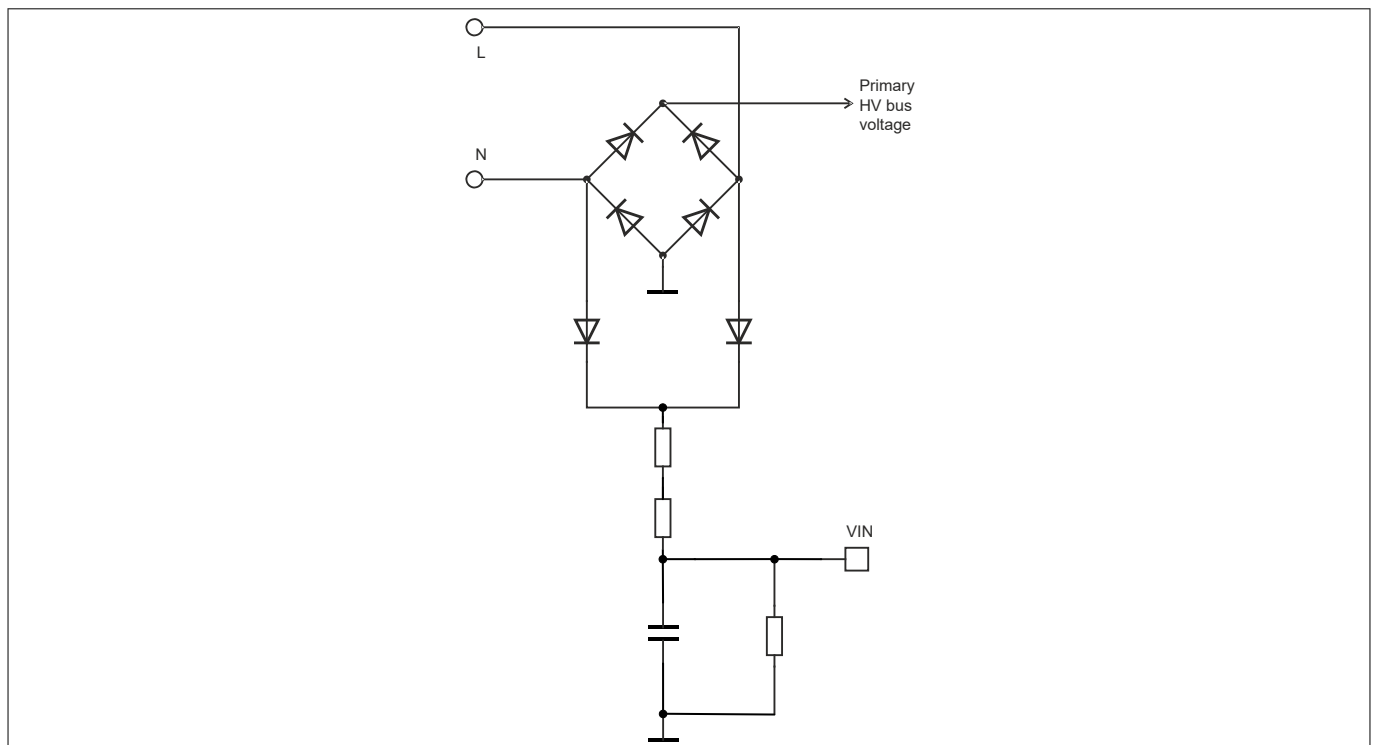
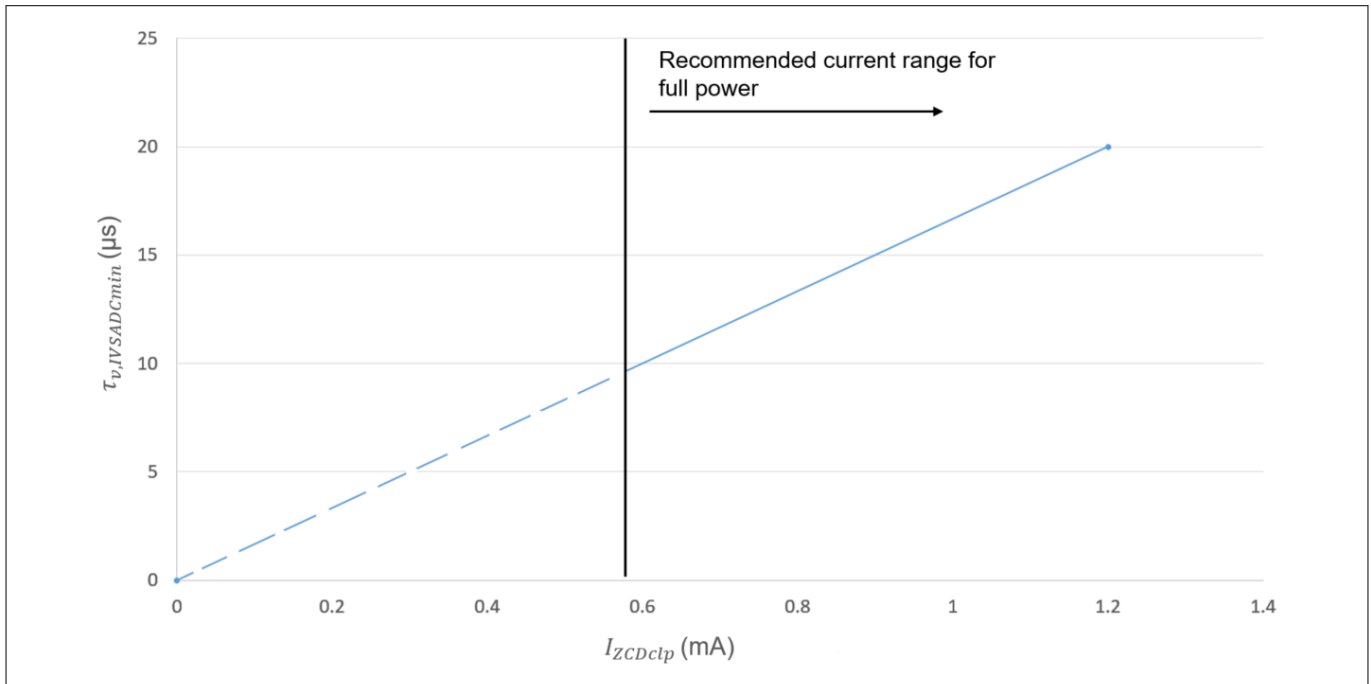
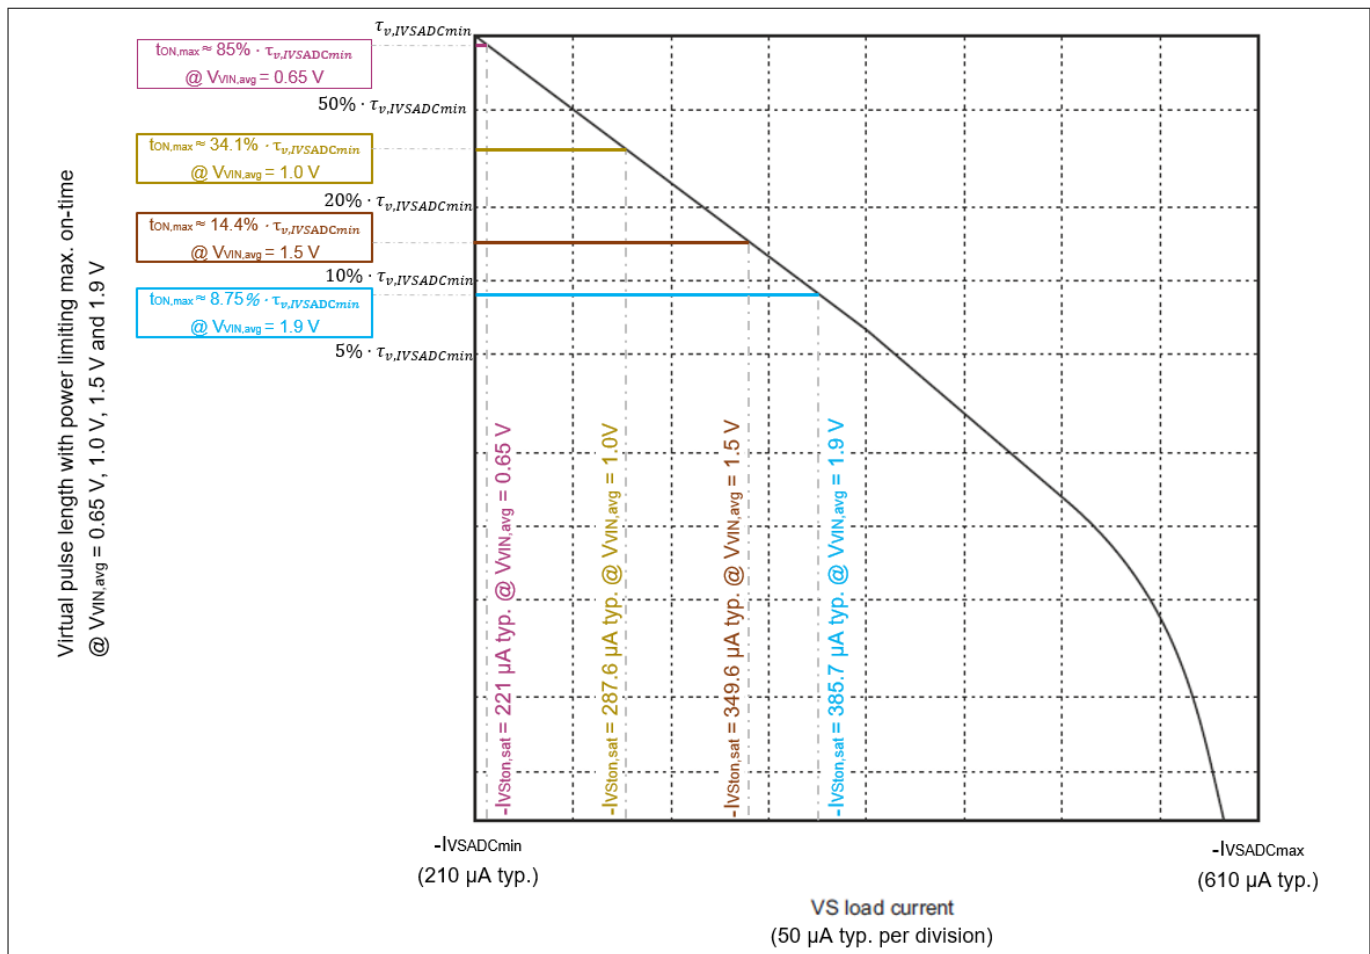

Figure 6 V_{IN} pin circuit
Figure 14 Virtual pulse length at $I_{VSADCmin}$, $\tau_{v,IVSADCmin}$ versus ZCD peak to peak settled clamping current, I_{ZCDclp}
Figure 15 Virtual pulse length mapping with power limiting maximum on-time effect
1. Based on $I_{ZCDclp} = 1.2 \text{ mA}$, obtain $\tau_{v,IVSADCmin} = 20 \mu\text{s}$ from Figure 14.
For $t_{ON,max}$ estimation, it is important to note that $\tau_{v,IVSADCmin}$ changes with different $V_{VIN,avg}$ level, when the input voltage detection circuit in Figure 6 is applied. This is because $\tau_{v,IVSADCmin}$ is scaled depending on I_{ZCDclp} in Figure 14, while I_{ZCDclp} is dependent on the input voltage, as explained in ZCD pin signal sensing.
Figure 15 shows the virtual pulse length with the power limiting maximum on-time effect, when $V_{VIN,avg}$ is 0.65 V, 1.0 V, 1.5 V and 1.9 V, respectively.
When $V_{VIN,avg}$ is at the brownin level ($V_{BI} = 0.65$ V typ.), the power limitation is enabled with $t_{ON,max} = 85\%$ of $\tau_{v,IVSADCmin}$, as shown in Figure 15. For example, if the desired $t_{ON,max}$ at brownin level is 17 μs typ., it is necessary to have $\tau_{v,IVSADCmin} = 17 \mu s / 85\% = 20 \mu s$. And, according to Figure 14, $\tau_{v,IVSADCmin} = 20 \mu s$ is obtained when $I_{ZCDclp} = 1.2$ mA is applied. As a result, to achieve $t_{ON,max} = 17 \mu s$ typ. at brownin level, R_{ZCD} should be dimensioned to produce $I_{ZCDclp} = 1.2$ mA typ. at brownin level.